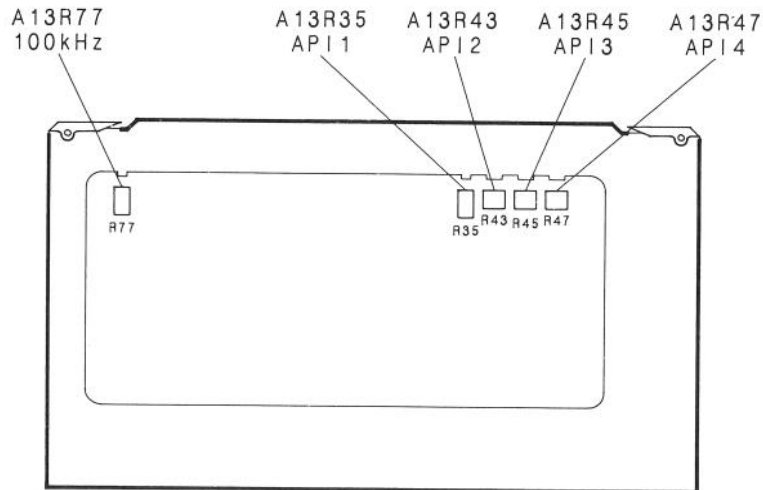

Figure 13. Fractional-N Spur and FM Sideband Adjustment Locations
8. Refer to Figure 13 for adjustment locations. When prompted, adjust API1 on the A13 fractional-N analog board assembly for minimum signal amplitude while viewing the center of the spectrum analyzer display. Press any key on the computer to continue the program.